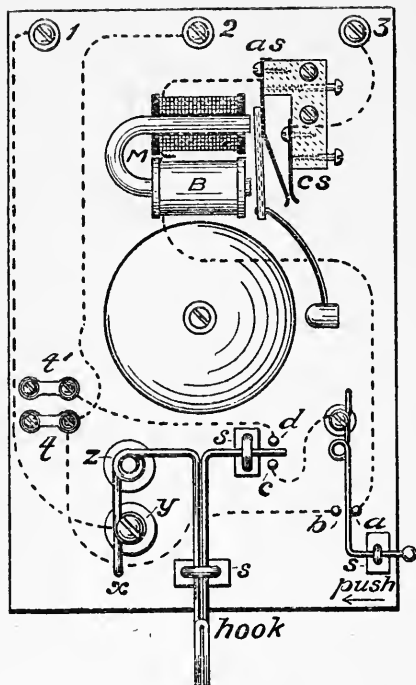
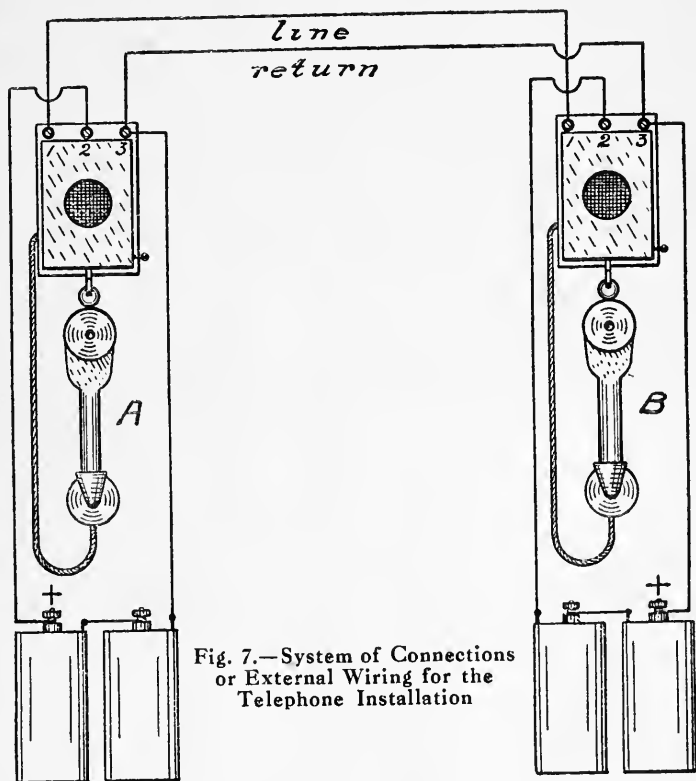

Fig. 6.—Details of Complete Wall-set.
Fig. 7.—System of Connections or External Wiring for the Telephone Installation
**The Wall-Sets.**—Fig. 6 shows one of the wall-sets; it is designed to dispense with all ready-made electrical parts, and only the wire for the bell-magnet (2 oz. of
board connections that it is necessary only to explain the current paths between the two stations when ringing-calls are sent or conversation is exchanged. As shown, the baseboard measurements are  $6\frac{1}{4}$  in. by 4 in.; the completed wall-sets should be provided with outer casings of thin fretwood or of tinplate mounted on wood fillets, to preserve the mechanism from dust and tampering fingers. A central orifice backed by a piece of wire gauze will let out the sound of the gong. This suggestion is embodied in Fig. 7, which shows the external wiring to the batteries and lines complete.
**Conclusion.**—A complete understanding of the whole installation will best be obtained by a systematic trace-out of the current paths, to which end Figs. 6 and 7 must be studied. Let it be assumed that station A is calling station B (Fig. 7). A's push is pressed to the left and current from the carbon (+) of the A-battery flows by terminal 2 (*see* Fig. 6) to stud *b* of the push (pressed to the left) and through its spring to stud *c* of the switch (which is *down* because the telephone hangs on the hook) and so to screw *y* and terminal 1. Thence (*see* Fig. 7) it travels by *line* to terminal 1 of station B and to screw *y* (*see* Fig. 6) and the switch-hook (*down*), stud *c*, the press-spring (biased to the *right*) and stud *a*, through the magnet-coils B, springs *a s* and *c s* (ringing the bell) to terminal 3 and back to the zinc (−) (Fig. 7) of the sending-battery at the A station, by the *return* line. Thus A can call up B, and B can call up A similarly. A and B now lift their telephones from the hooks, and the switch springs rise breaking contact with studs *c*, and making contact with studs *d*. Current now passes continuously through both
telephones and both batteries *in series*, and the bell-circuits are cut out completely. Starting, say, from + of the A battery (Fig. 7), current flows by terminal 2 to con-
nection *t* (see Fig. 6) and by one conductor of the twin-flexible through the transmitter and receiver of the hand-telephone (see Figs. 1, 2 and 3) and back by the other conductor of the flexible to connection *t*1 (Fig. 6), to stud *d*, the switch (*up*), screw *y*, to terminal 1 and thence by *line* to terminal 1 of station B (Fig. 7) to screw *y* (Fig.
6), the switch hook (*up*), stud *d*, connection *t*1, the telephone, connection *t*, and terminal 2. Then down to the zinc (—) of the B battery (Fig. 7) through it to +, and (reinforced in power) back by the *return* line to the zinc (—) of the A-battery from which this series-trace commenced.